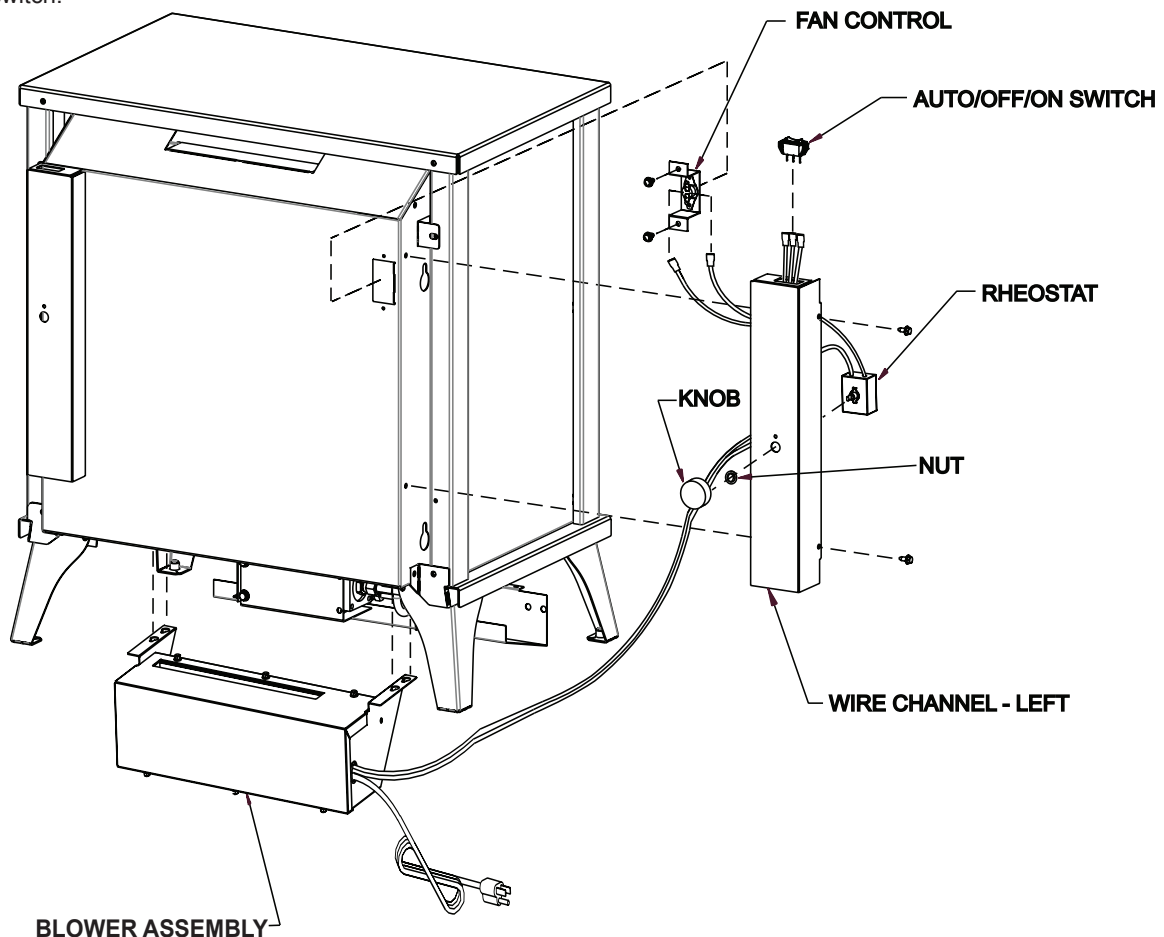

Figure 26 -VFD20MS shown
4. Remove wire channel-left from appliance by removing two 10 x 1/2" screws on left side of the appliance. **NOTICE:** Some units require a new wire channel. If Rheostat mounting holes are missing from part removed from unit, discard wire channel removed from unit and continue installation with appropriate wire channel shipped with blower. **See Figure 26.**
13. Bend the fan control tab, located on the left side of the back of the unit, inward toward the unit. **See Figure 26.** Be sure tab is bent at least 90 degrees to allow fan control bracket to slide into slot.